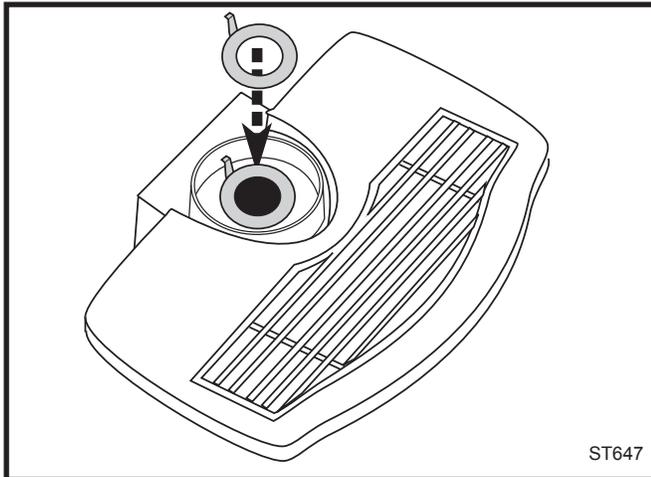

Fig. 18 Install the restrictor plate only if required for the venting configuration. Refer to Page 7.
- 1. Install the Restrictor Plate.** Consult Page 7, Figure 8 to determine whether the restrictor plate is needed. If so, place the restrictor plate within the inner flue collar as shown in Figure 18.
- 1. Install the Restrictor Plate.** Consult Page 7 to determine whether the restrictor plate is needed. If so, place the restrictor plate within the inner flue collar as shown in Figure 18.